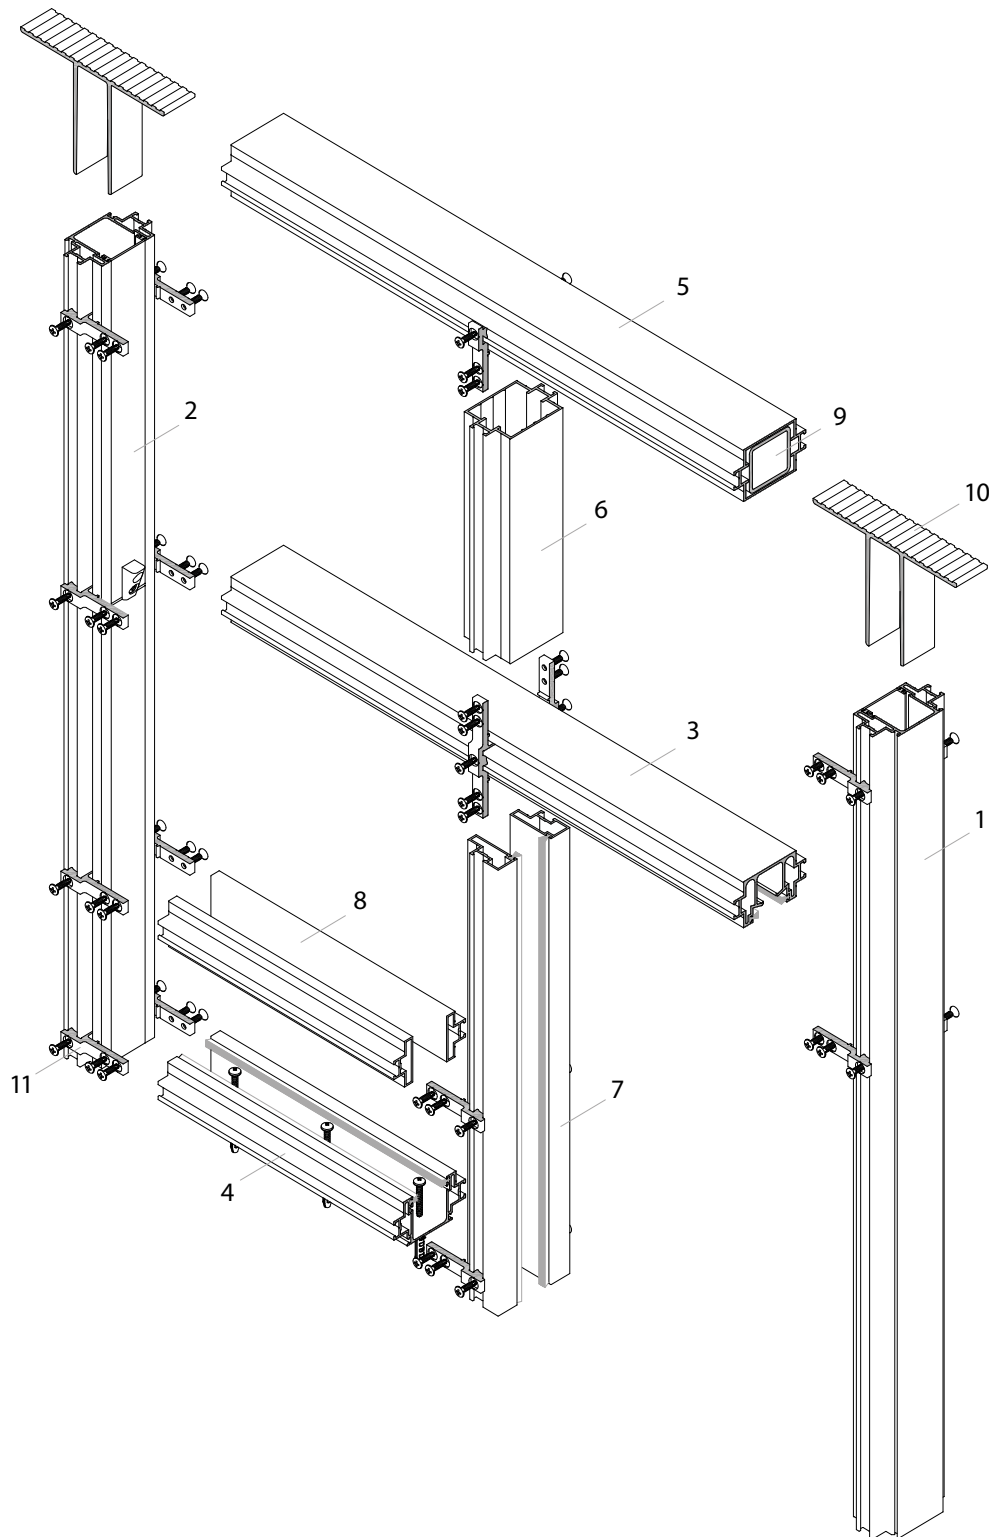
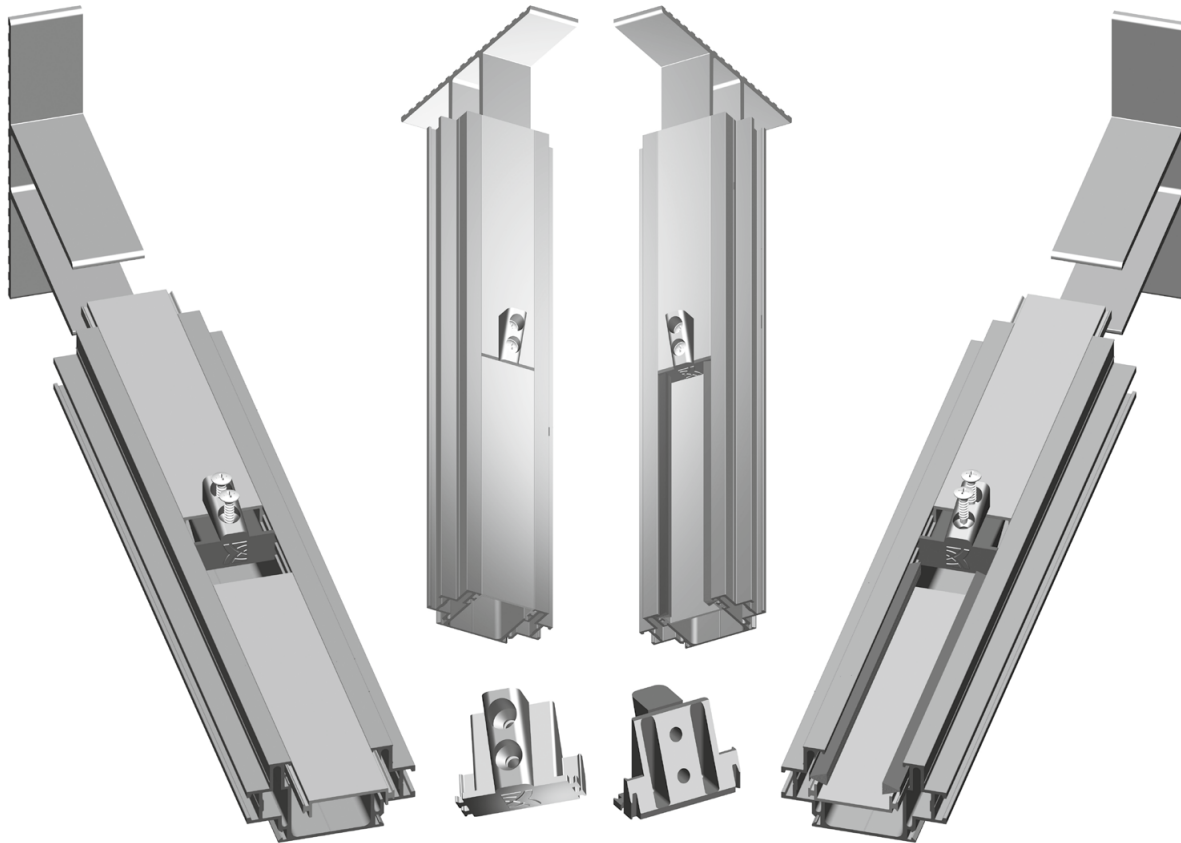
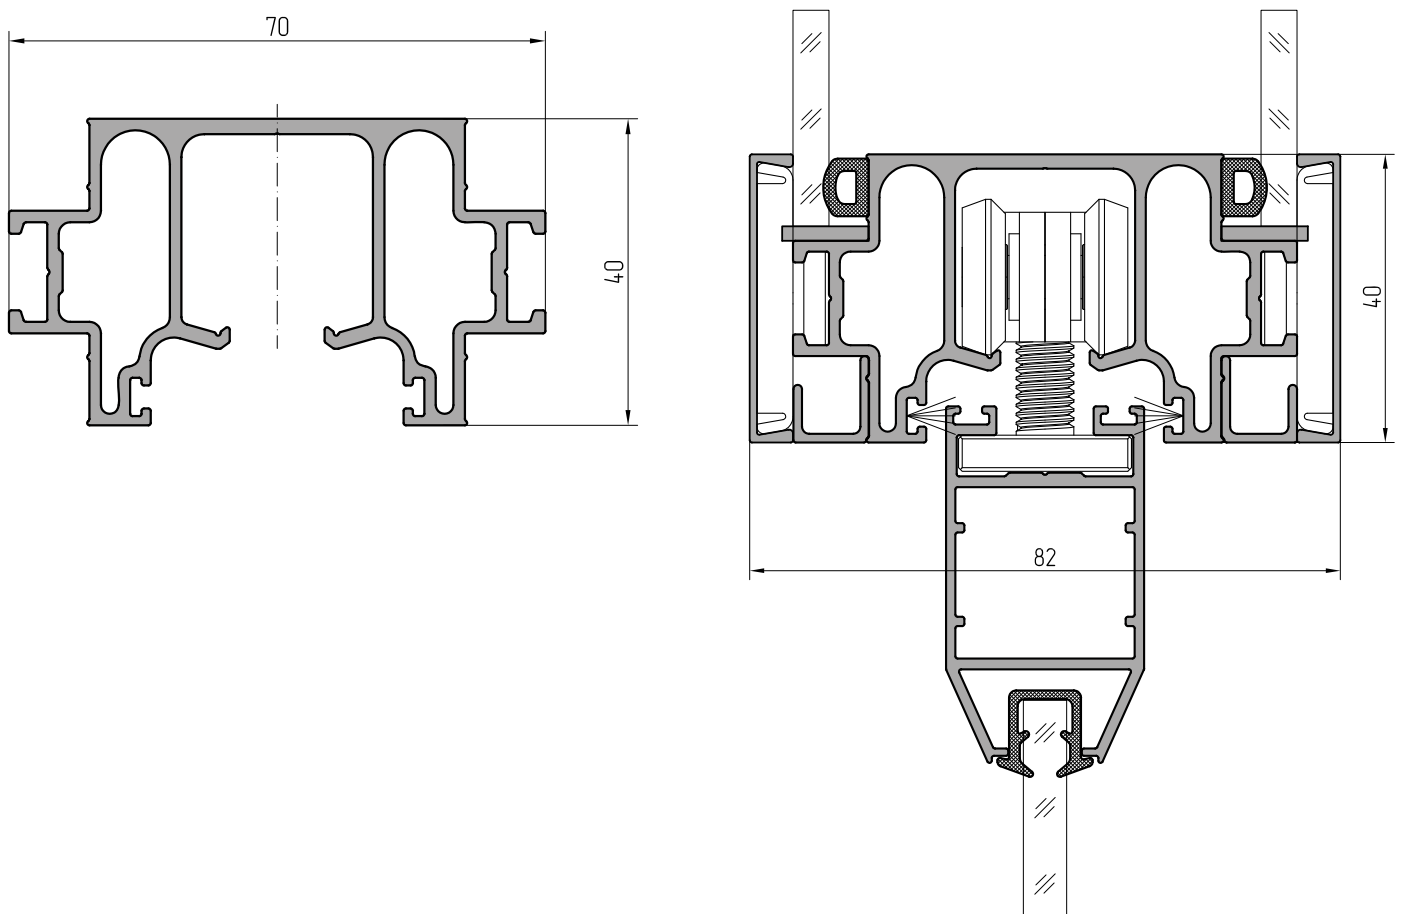
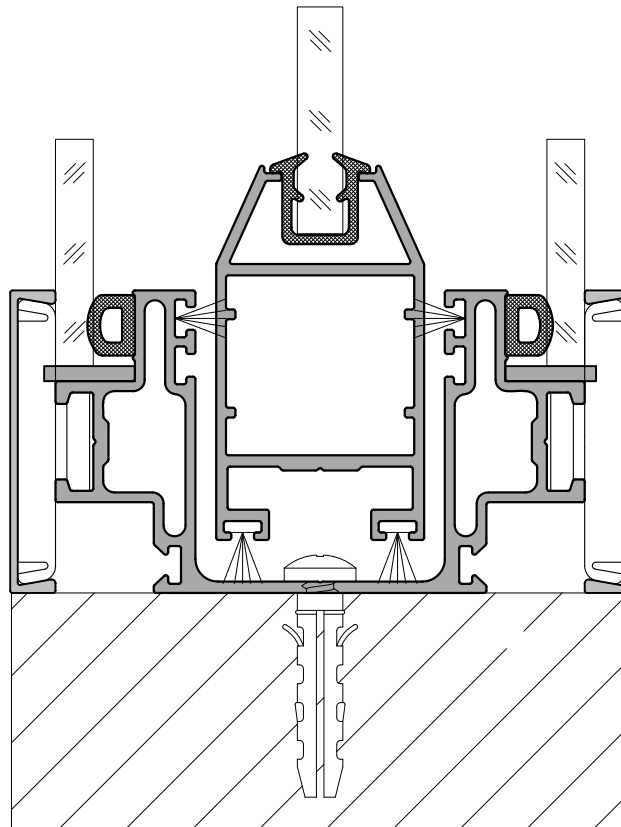

Fig.2
Fig.3
Fig.6
Fig.7
The sliding door framework is created by the combined vertical mullions Pos. 1 and 2 on Fig. 2. The mullions can be fixed to the upper slab through joining elements (Pos. 10) creating a movable bearing together with the inner chamber of the mullion profile. This movable bearing allows to compensate the thermal expansion of the aluminium profile and deflection of the upper floor slab.
The combined mullions are assembled in advance according to the measurements made (Fig. 3). Left mullion on Fig. 3 is the Pos. 2 on Fig. 2, right mullion on Fig. 3 is the Pos. 1 on Fig. 2.
The right mullion is used as a catch in the door installation area, and it repeats the external geometry of other ALT111 profiles in the area of glass installation. This is achieved by the auxiliary profile segments which are placed into the mullion from both sides turned around 180° to each other. The gap between the profiles is covered with a plastic plug as shown on Fig. 3.
The guide transom (Pos. 3 on Fig. 2) is shown on Fig. 6. It has a shape allowing to put rollers and door stops. The felt sealants between the guide transom and the door leaf are hiding the gap and protecting the hardware from dust penetration.
Bottom guide profile (Pos. 4 on Fig. 2) is the same shape than the side door frames. The felt sealant on the bottom guide is hiding the gap between the door leaf and the aluminium profile (Fig. 7). The bottom guide is fixed to the floor.
The upper reinforced transom bar is shown on Fig. 2 (Pos. 5). It can be reinforced depending on the opening width and the door leaf weight by 40×40 mm steel tube (Fig. 2, Pos. 9) with wall thickness of 3 mm (Fig. 8).
The second level transom Fig. 2 (6) gives an additional support to the guide rail transom. Initial profile for the second level transom is the same as for the reinforced profile. The quantity of the second level transom bars differs depending on the project.
Pos. 7 on Fig. 2 is the half-mullion (Fig. 9) serving as a frame of the door opening, Pos. 8 is the half-transom (Fig. 10) that is project specific.